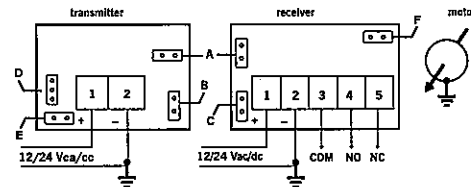
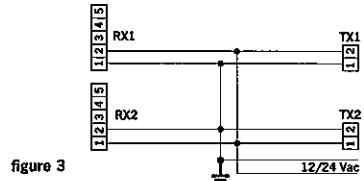

figure 2
figure 3
2. Make all connections as shown in figure 2; pay attention to the voltage polarities in case of direct current or use of two pairs of photocells in synchronised mode.
b. To obtain synchronised operation, the devices must be powered as indicated in figure 3, with 12/24V alternate current, paying attention to the connections and moving the jumper on the transmitter to 'synchronised' position (see figure 2 point D).
6. (Only for FT98-FT98S-FT00/6) Select the desired port by means of the transmitter jumper as shown in figure 2 in the following way:
8. Select photocell voltage by means of the voltage selection jumper (see figure 2). The 12/24 V choice must be made according to the voltage available on the control unit.